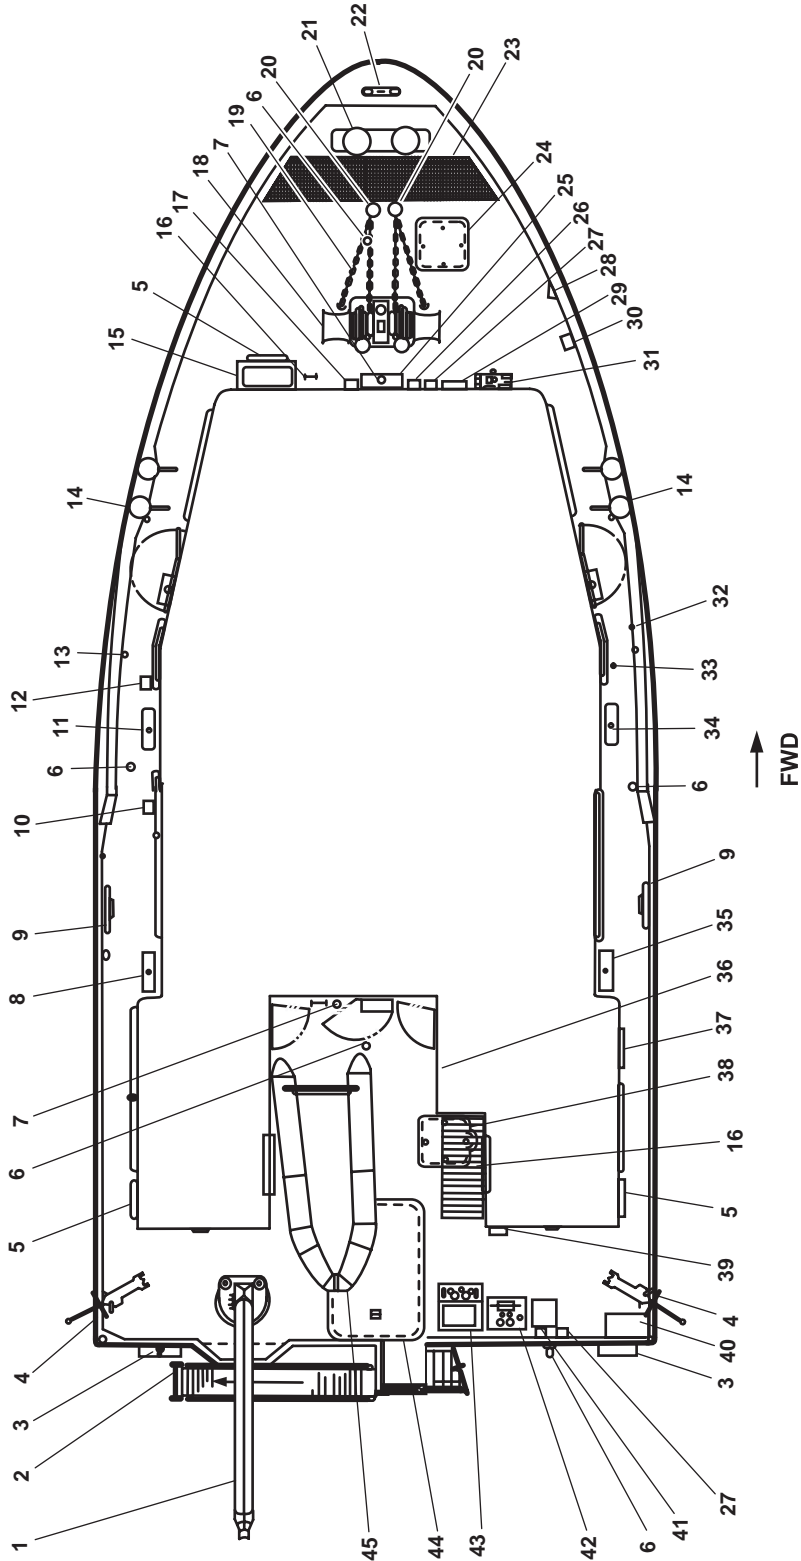

Figure 1. 01 Level Exterior
47. Tow gear locker natural air vent (figure 1, item 47). This vent provides fresh air ventilation to the starboard side of the tow gear locker.
48. Fuel oil tank 4S sounding tube (figure 1, item 48). The fuel oil tank 4S sounding tube is provided to measure the level of fuel oil in fuel oil tank 4S.
49. Fuel oil tank 4S cutoff valve (figure 1, item 49). This valve provides remote cutoff for fuel oil tank 4 starboard.
50. Tow bar (figure 1, item 50). The tow bar protects the polyfiber grating and rudder motors from damage caused by contact with the towing hawser(s).
51. Fuel oil tank 4S vent and spill container (figure 1, item 51). This vent vents fuel oil tank 4S to weather. The spill container contains spillage from accidental overfilling.
52. Hatch (figure 1, item 52). This hatch provides access to the steering gear compartment.
53. Rudder motor (figure 1, item 53). The rudder motors move the rudders into the requested position as directed by the helm or auxiliary control stations.
54. Chafing bar (figure 1, item 54). The chafing bar protects the polyfiber grating and the rudder motors from damage caused by contact with the towing hawser(s).
1. Crane (figure 1, item 1). The hydraulically powered crane is used to deploy and recover the workboat, to install or stow the accommodation ladder, and to handle towing gear.
2. Accommodation ladder (figure 1, item 2). When installed, the accommodation ladder provides easy access from the shore or another vessel.
3. Floodlight (figure 1, item 3). The halide floodlight provides illumination for the fantail.
4. 50 Cal. machine gun mount (figure 1, item 4). The mount supports the air cooled, belt-fed heavy machine gun (M2HB) used for vessel protection.
5. Life ring (figure 1, item 5). The life ring provides an emergency personal flotation device.
6. Countermeasure washdown sprinkler (figure 1, item 6). The countermeasure washdown sprinkler uses raw water to remove Nuclear, Biological, and Chemical (NBC) contamination.
7. Floodlight (figure 1, item 7). The adjustable 200-watt incandescent floodlight provides illumination for the aft 01 level weather deck.
8. Vent for fuel oil tank 3C and fuel oil day tank with the spill container (figure 1, item 8). The vent ventilates the oil and fuel tanks to weather. The spill container catches any overflow of fuel.
9. Cleat (figure 1, item 9). The cleat is used to secure lines.
10. Lube oil fill connection (figure 1, item 10). The lube oil fill connection provides a portal for lube oil transfer to the tanks.
11. Vent for lube oil tank, fuel oil tank 2P, and hydraulic oil tank with the spill container (figure 1, item 11). The vent ventilates the oil and fuel tanks to weather. The spill container catches any overflow of the lube oil, fuel oil, and hydraulic tank.
12. Hydraulic oil fill connection (figure 1, item 12). The hydraulic oil fill connection provides a portal for the hydraulic oil transfer to tank.
13. Lube oil tank sounding tube (figure 1, item 13). The lube oil tank sounding tube determines the level of lube oil present in the storage tank.